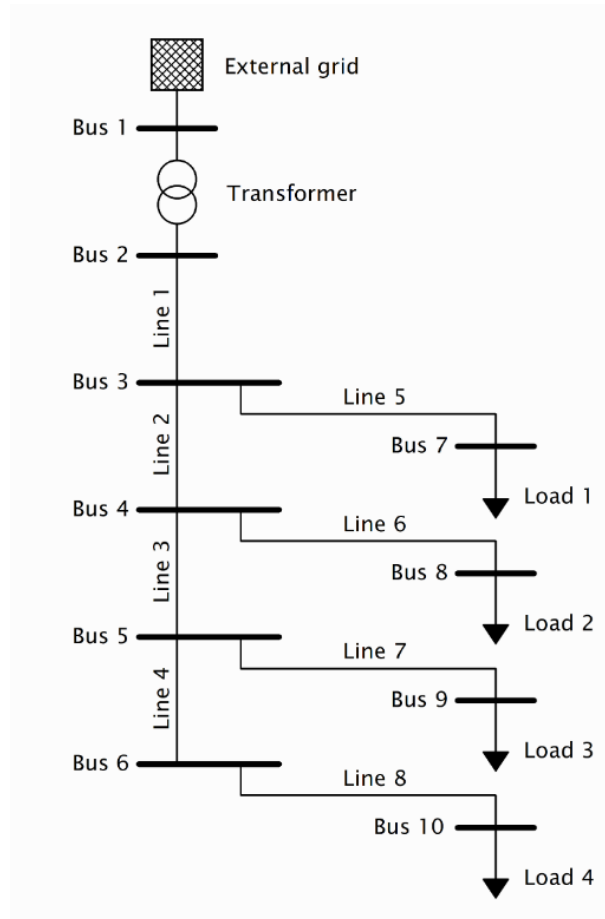

Figure 7 Four loads with branches out
- Four loads with branches out (Figure 7)